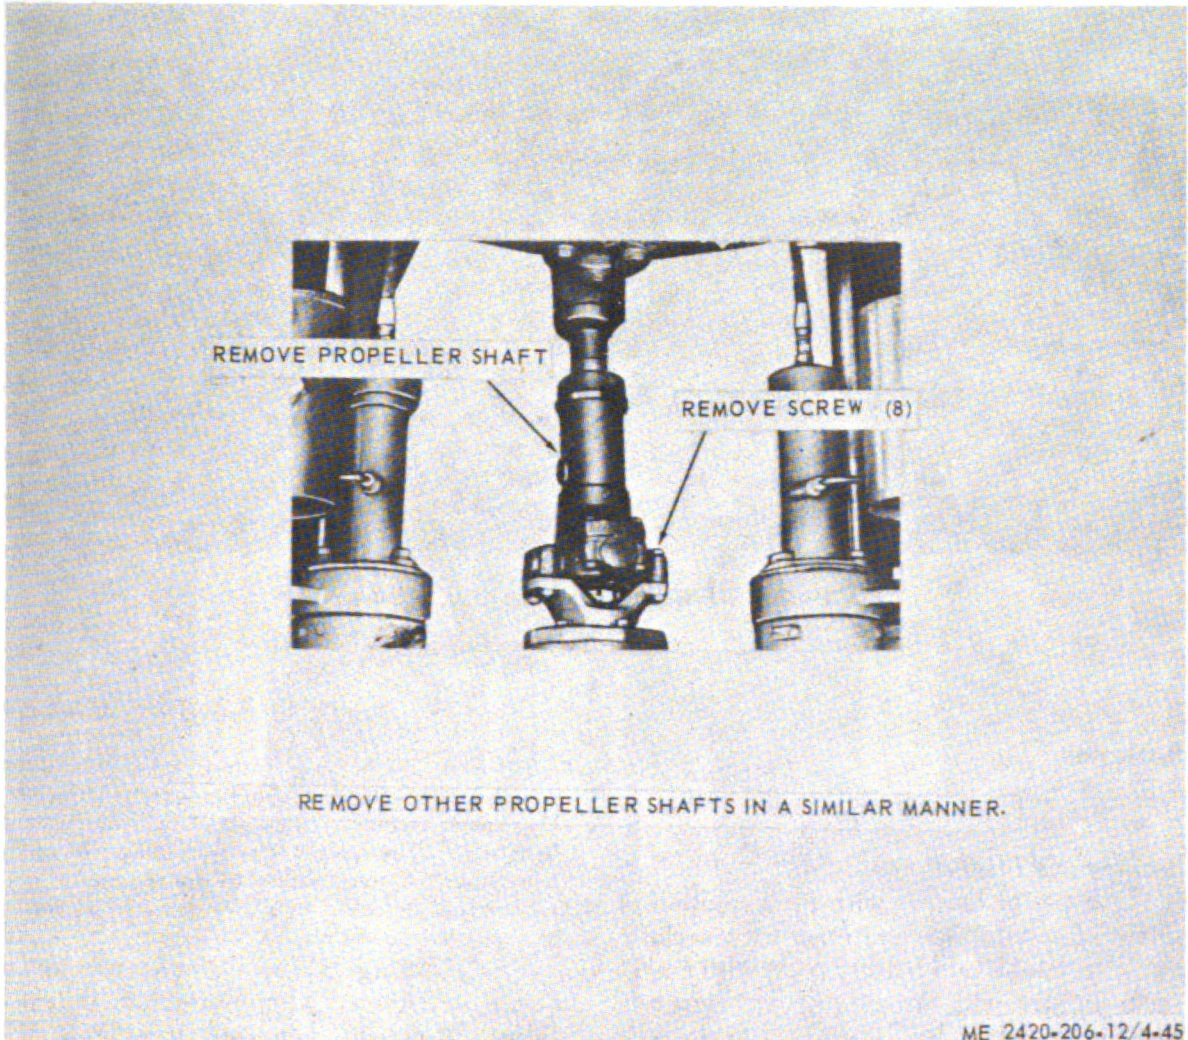

Figure 4-45. Propeller shaft, removal and installation.
a. Removal. Remove propeller shafts as illustrated in figure 4-45. Compress shaft and remove from tractor, tap bearings with a soft hammer if necessary, to release them. Take care not to loose rollers from bearings.
(1) Clean parts and dry thoroughly.
(2) Inspect for cracks, breaks and other damage. Replace defective propeller shafts as necessary.
(3) Lubricate Midmount bearing, mounted on the inside front of rear frame unit, driven by a propeller shaft from the transmission and drives a propeller shaft to the rear axle. Refer to LO.
c. Installation. Install propeller shafts as illustrated in figure 4-45. Replace seals, lubricate inside of bearing to retain the rollers.